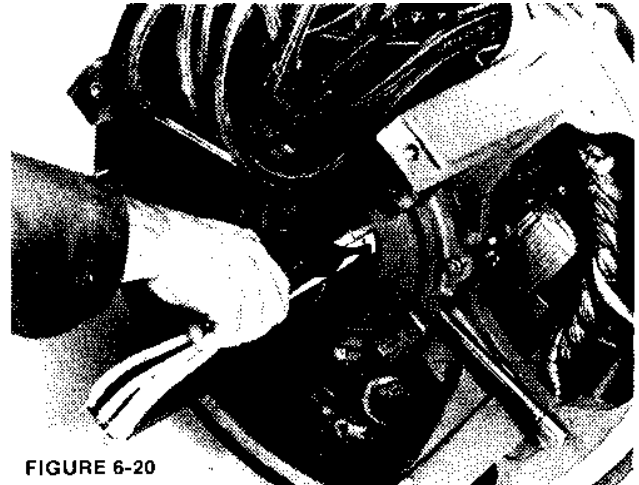

FIGURE 6-20
5. On 430 frame generators a second snap ring is used inboard of the PMG rotor. (Larger generators have a step on the shaft.) This snap ring must be removed before the generator main rotor can be removed. (Figure 6-20.)